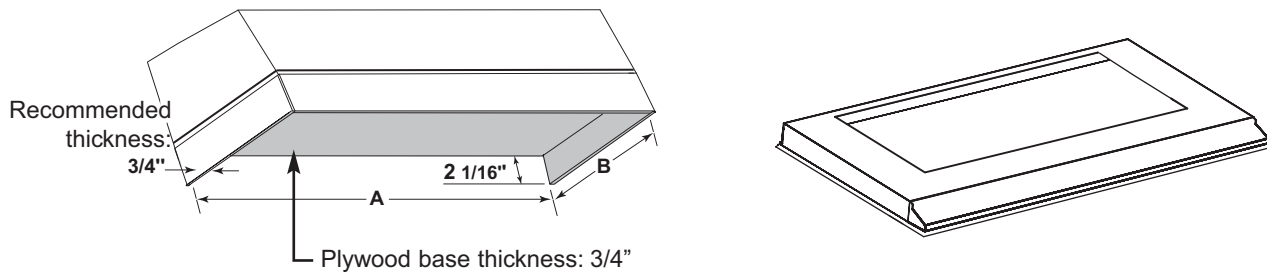

FIG 1
FIG 1: Zephyr recommends the base of the custom hood to be 3/4" thick plywood. The sides, front and backboard (if included) of the custom hood to be 3/4" thick, assuming standard cabinet widths.
Install 1 small pad (A), included in the hardware package, to each side of the main liner plate. (See figures 1 and 2)